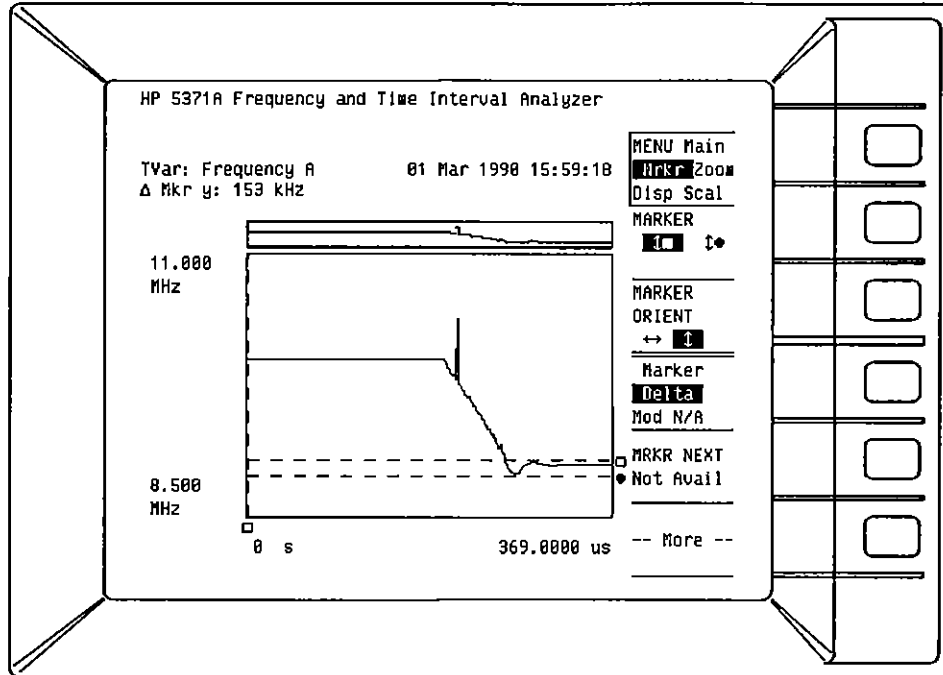

Figure 16-17. Time Variation Y-axis Delta
- Delta on the  $\updownarrow \square \updownarrow \bullet$  markers is the y-axis difference in the position of the two markers (see *Figure 16-17*).